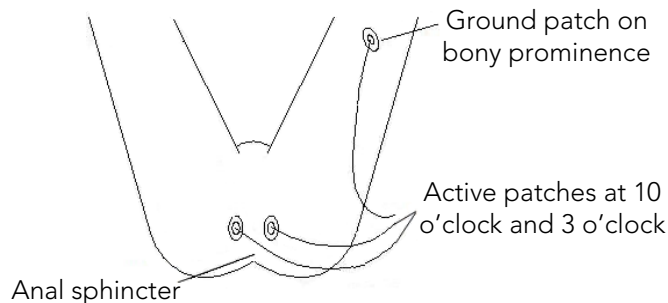

Figure 15: Electrode Placement Diagram
2. Place two electrodes peri-anally at the 10 o'clock and 2 or 3 o'clock positions. Place as close as possible to the anus for pelvic floor muscle readings. Place the third electrode on a bony prominence such as the patient's hip bone or knee (Figure 15).